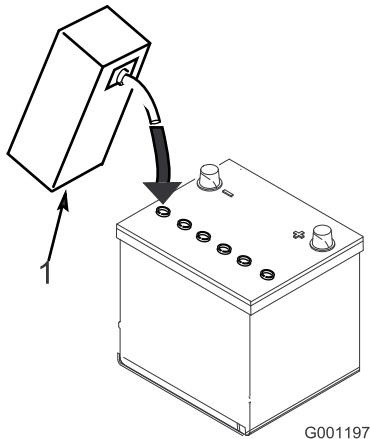

Figure 5
3. Carefully fill each cell with electrolyte until the plates are covered with about 6 mm (1/4 inch) of fluid (Figure 5).
4. Allow approximately 20 to 30 minutes for the electrolyte to soak into the plates. Fill as necessary to bring the electrolyte to within about 6 mm (1/4 inch) of the bottom of the fill well (Figure 5).